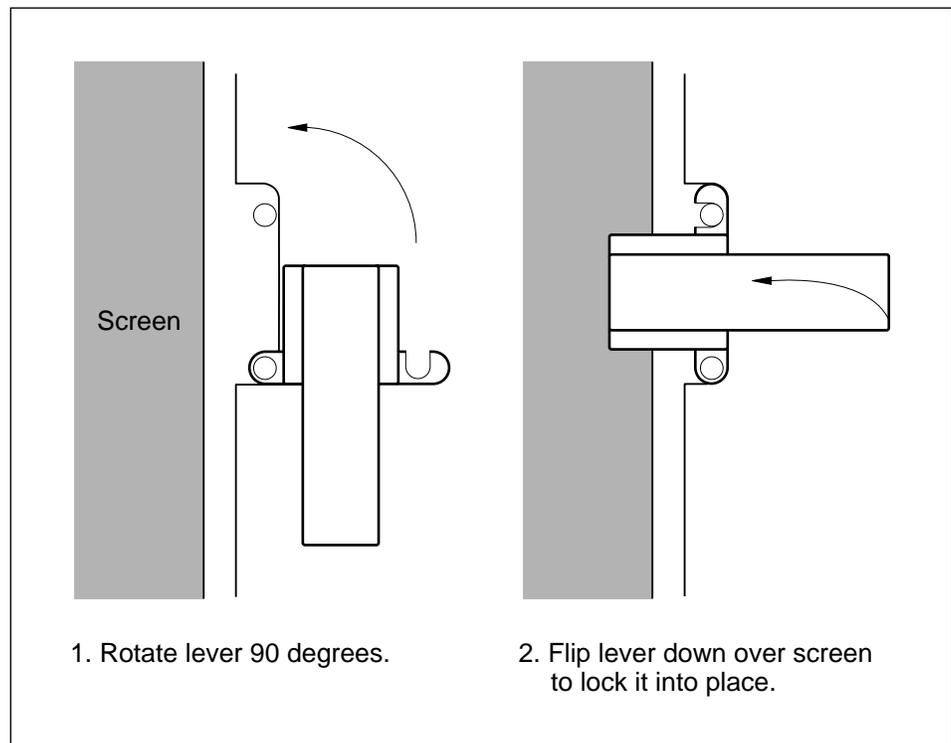

Figure 2-4. Closing the exposure cassette.
- Rotate the clamp counterclockwise until it stops at the pin (figure 2-4).